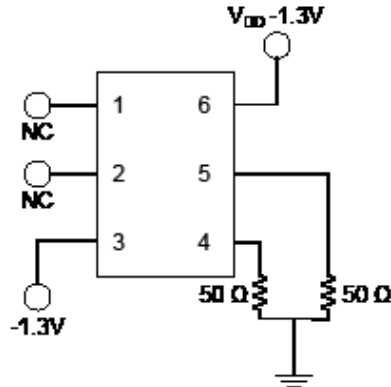
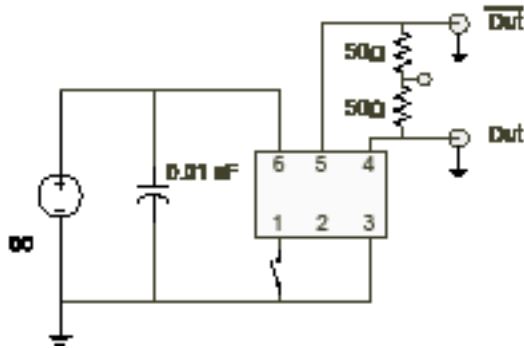
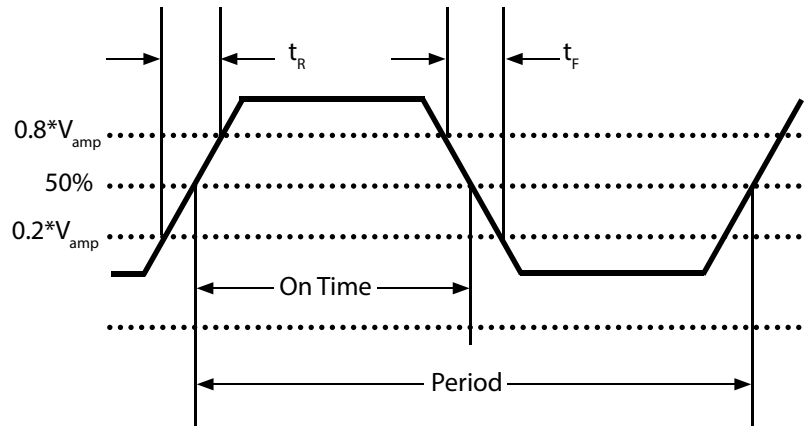

Figure 1 - LV-PECL test circuit
Figure 3 - LVDS test circuit
Figure 2 - Waveform
4. Figure 1 shows the test circuit and Figure 2 defines these parameters.
4. Figure 3 shows the test circuit and Figure 2 defines these parameters.